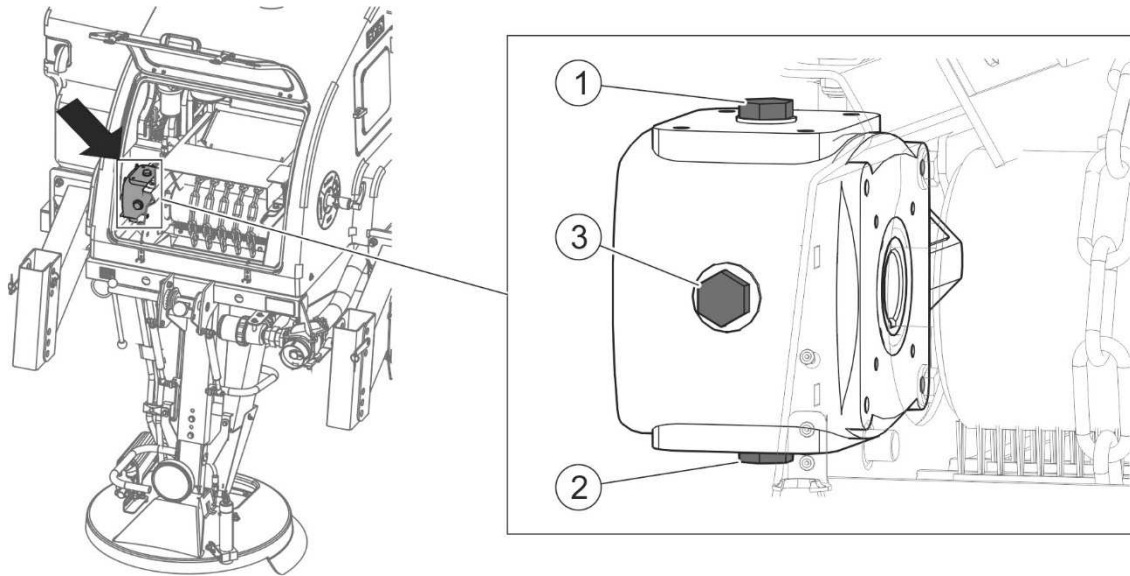

FIGURE 5.8 Changing oil in the belt conveyor drive transmission
- Unscrew filler plug (1) (FIGURE 5.8).
- Unscrew drain plug (2) and drain oil to a previously prepared container.
- Tighten drain plug (2) and pour new oil through filler plug opening (1) up to the inspection plug level (3).
- Tighten inspection plug (3) and filler plug (1).